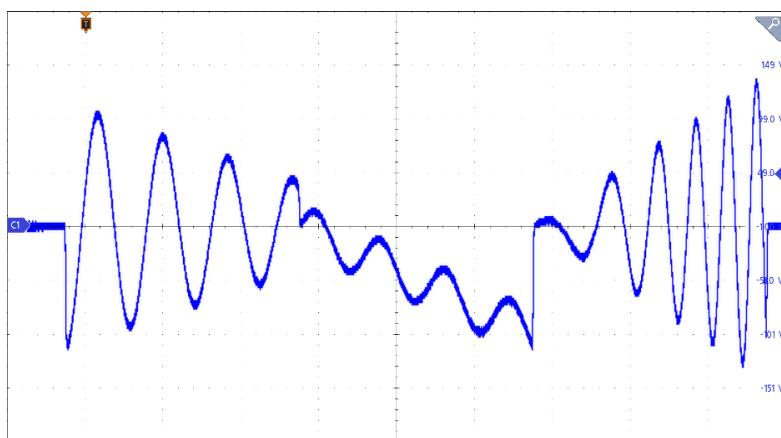

Figure 5-11 List Mode Setting Page (Example Output Waveform for Phase 1 Sequence Configuration)
7. After setting the sequences, tap the Home key **Home**, then press **TRIG. ON** to trigger the output. The output waveform is shown in Figure 5-11.